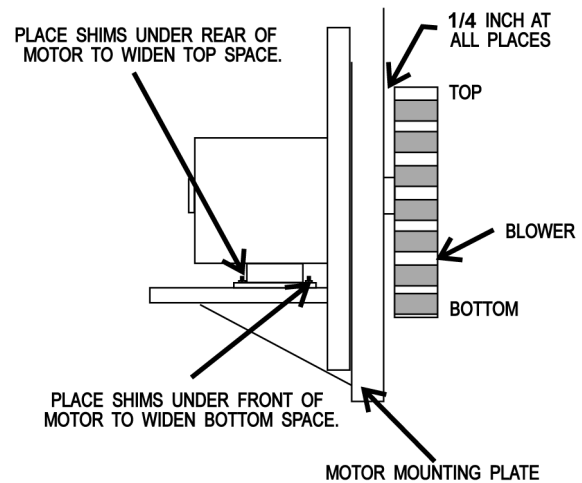

Fig. 37
- Adjust the motor position until the blower is parallel to and 1/4 inch (Fig. 37) away from the motor mounting plate. Check for squareness of blower to the motor mounting plate at the top, bottom, left and right of the blower.
- Adjust position until blower is 1/4 inch from motor mounting plate (Fig. 37).